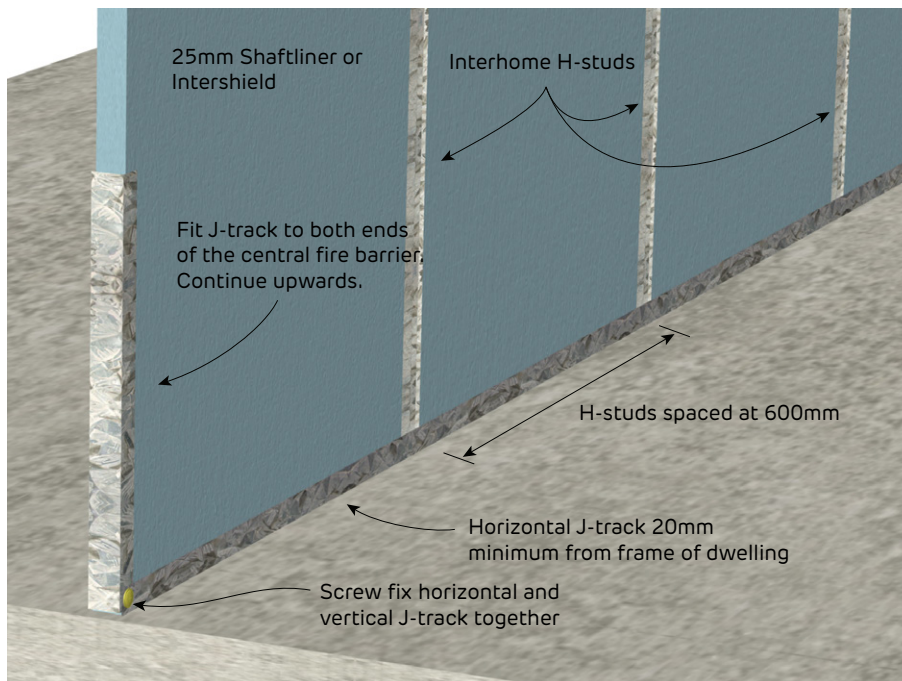

FIGURE 7 J-Track and H-Studs in Central Fire Barrier
Use a central fire barrier of interhome H-studs with 25mm shaftliner or intershield [Figures 7 and 8]
- > Fix to both vertical ends of central fire barrier. Screw fix vertical J-Track to horizontal J-Tracks [Figure 7]
- > Friction fit into bottom J-Track and push down completely. They are not required to be fastened to the top or bottom J-Tracks [Figure 7]